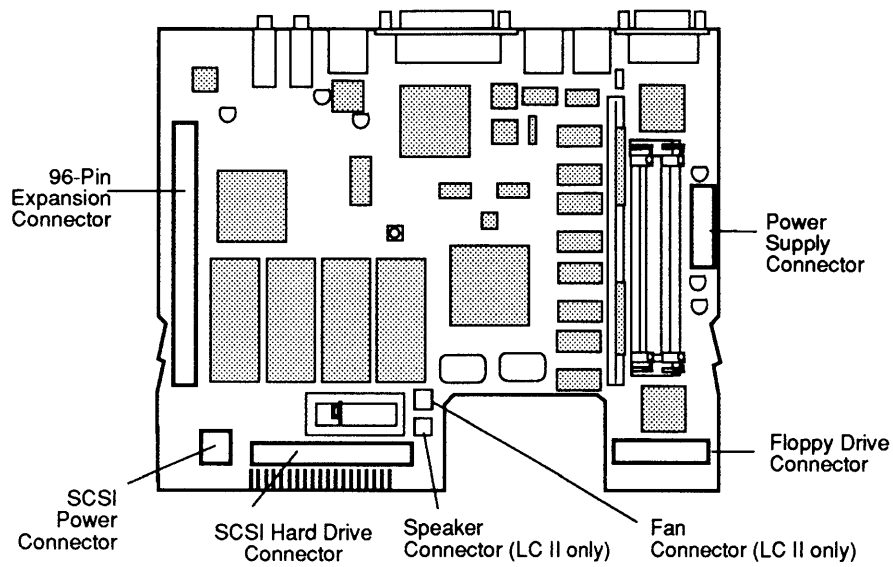

Figure 2-10 Disconnecting Connectors from the Main Logic Board
3. **Figure 2-10.** Disconnect the following connectors from the logic board: